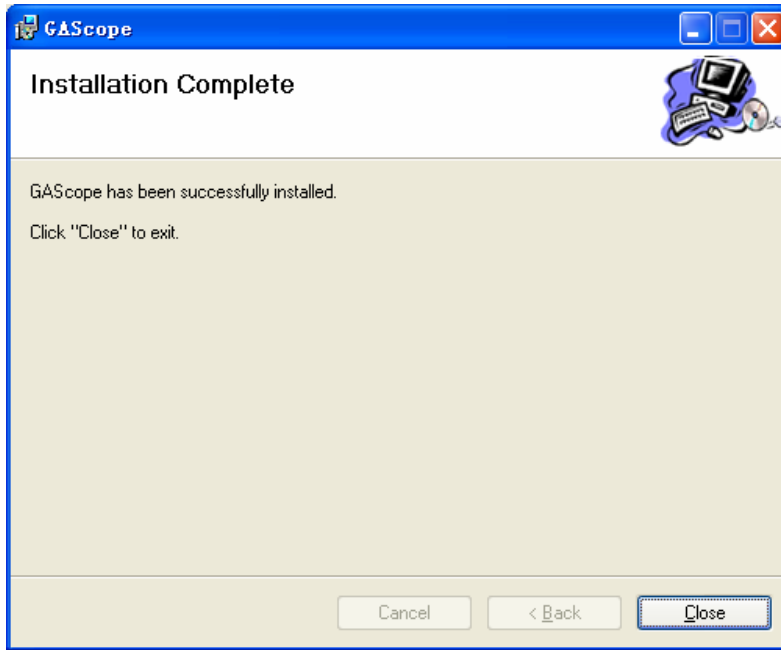

Figure2-4
2.3. Click “Close ” to complete the installation, as shown in Figure 2-4.